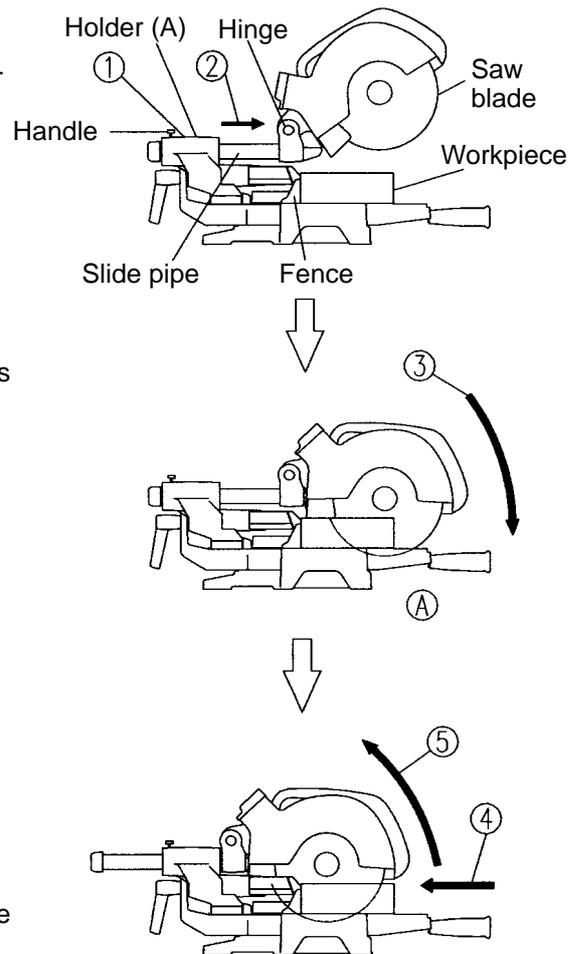

Fig. 36
(1) Cutting efficiency will be reduced if a dull saw blade is used, if an excessively long extension cord is used, or if the wire gauge of the extension cord is too small. (For details, refer to the Instruction Manual "USE PROPER EXTENSION CORD".) This is particularly important when cutting materials with dimensions which are at or near the maximum capacity for the machine.
(2) The customer should be advised to thoroughly inspect the workpiece to ensure that there are no metallic objects (nails in particular), sand, or other foreign matter in or on the workpiece. Contacting such foreign matter will not only shorten the service life of the saw blade, but could cause serious accident. Should the saw blade tips be broken off, the tips may fly toward the operator.
### (3) Press cutting ( ③ in Fig. 36)
### (4) Slide cutting ( ① to ⑤ in Fig. 36)
**Instruct the customer to always slide the saw blade section toward the fence while cutting, as shown by arrow ④ in Fig. 36.**
- ⑤ On completion of the cutting operation, turn the switch off and wait for the saw blade to come to a complete stop before raising the handle to its original position. Raising the handle while the saw blade is still rotating may cause unwanted cutting marks on the workpiece.